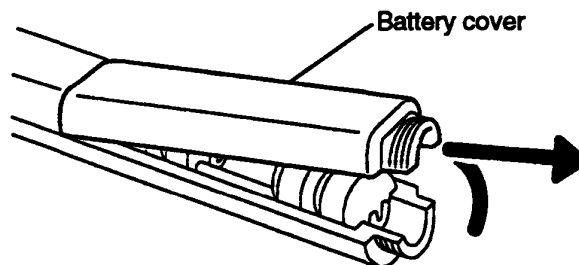

Figure 4-24 Removing the Battery Cover
2. Lift up the threaded end of the battery cover and disengage the other end from latches on the stylus (Figure 4-24).